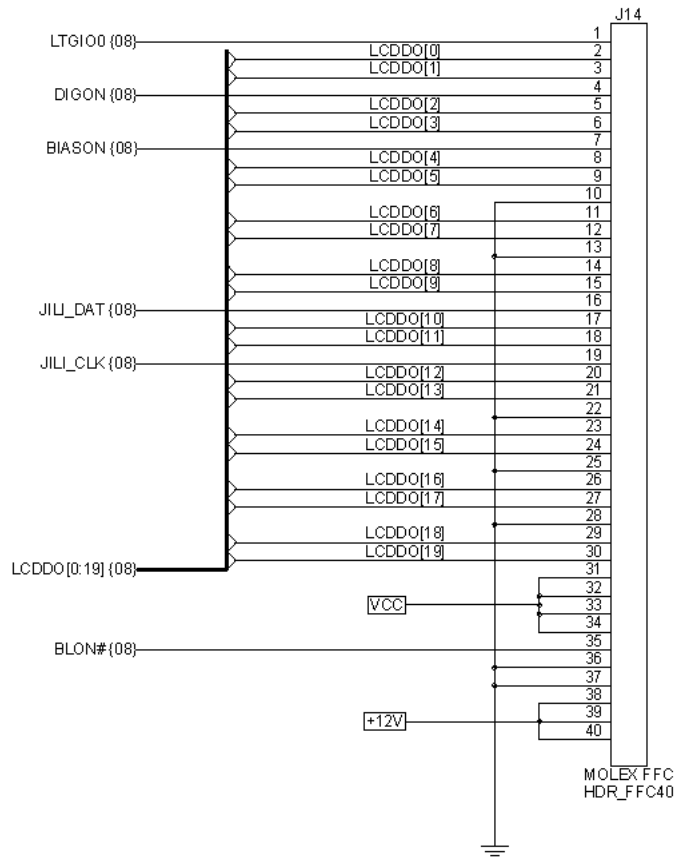

Figure 10 – JILI Connector for Flat Panel LVDS Interface
- ▶ If a parallel flat-panel interface is used, consider implementing the interface using the same connector and pinout used for JILI operation (shown in Figure 10), and a "receiver board" to connect the parallel signals on the flat foil cable to the display. This implementation provides an easy upgrade path to an ETX module with an LVDS interface.
5.6 Television (TV) Out